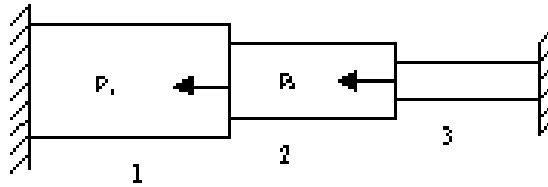

Figure:1
3. The structure in the figure 1 is subjected to increase in temperature 80°C . Determine displacements, stresses and support reactions $P_1=60\text{KN}$, $P_2=75\text{KN}$, $A_1=2400\text{mm}^2$, $A_2=1200\text{mm}^2$, $A_3=600\text{mm}^2$, $E_1=83\text{GPa}$, $E_2=70\text{GPa}$, $E_3=200\text{GPa}$, $\alpha_1=18.9 \times 10^{-6}/^{\circ}\text{C}$, $\alpha_2=23 \times 10^{-6}/^{\circ}\text{C}$, $\alpha_3=11.7 \times 10^{-6}/^{\circ}\text{C}$. 14M